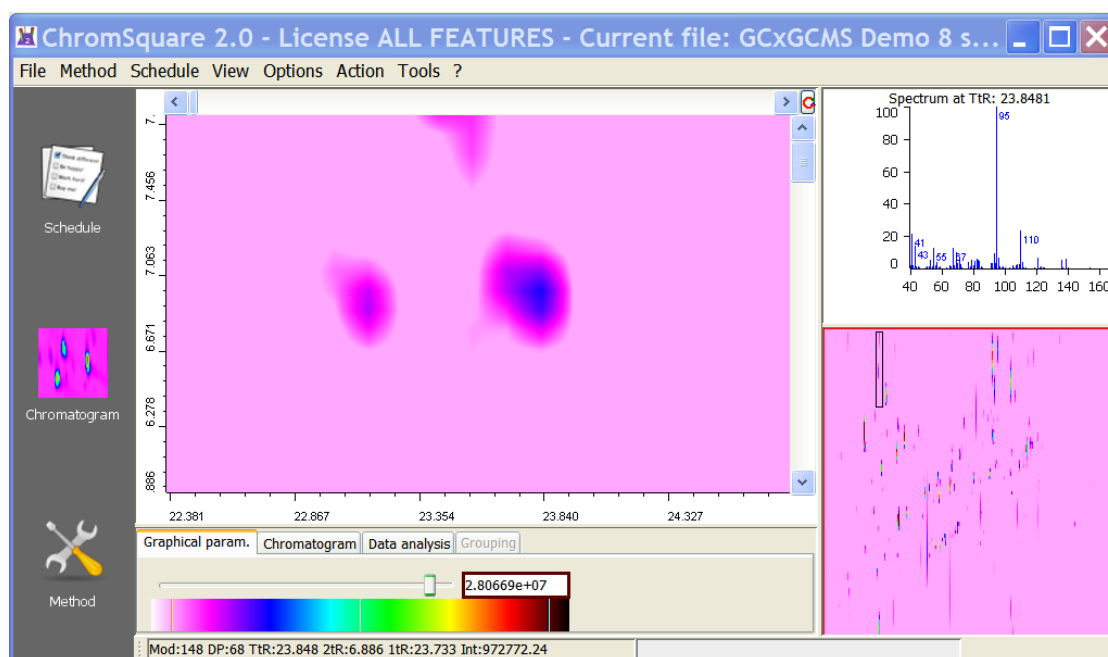

Figure 12.1: Zoom to the current ROI
8. The Map will show the region corresponding to the ROI (see Figure 12.1)